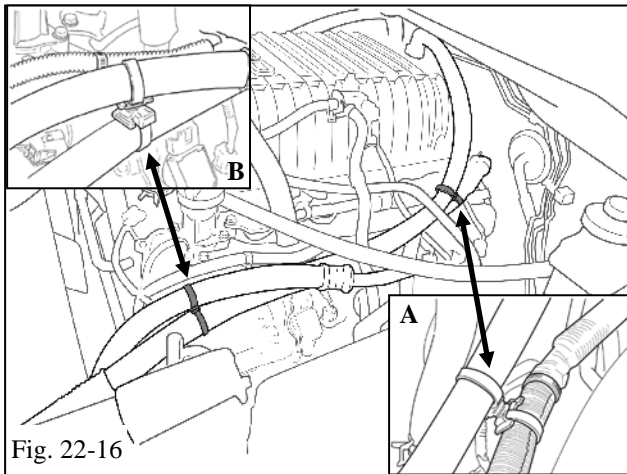

Fig. 22-16
- (1) Attach it to the gray vehicle wire harness with 1 swivel spacer (Item A14) and 2 lock ties (Item A17) (arrow "A", Fig. 22-16).
- (2) Attach it to the factory A/C hose with 1 swivel spacer (Item A14) and 2 lock ties (Item A17) (arrow "B", Fig. 22-16).